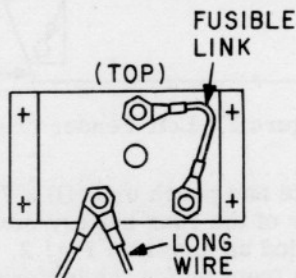

Figure 5. Power Disconnect (Rear View)
11. Thread the long wire through the undercarriage harness tubing into the lower control cabinet and connect it to the rear of the Power Disconnect Switch with existing wires numbered "2" as shown in Fig. 5. Dress the wire into the harness using wire ties and keep the wires clear of the steering gear.
8. Connect the long wire of the receptacle to the rear of the Power Disconnect Switch with existing wires numbered "2" as shown in Fig. 5.